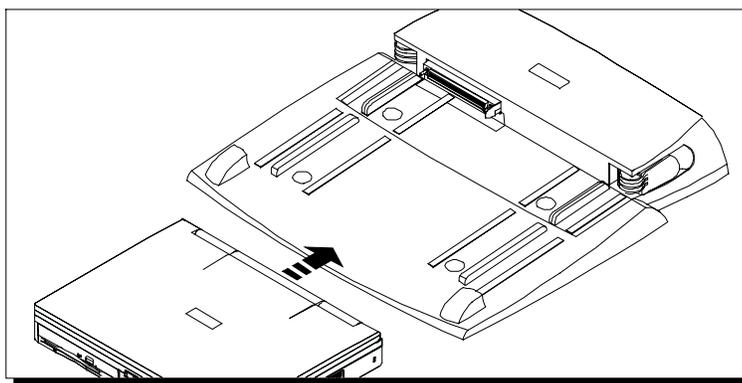

Figure 6-9: Connecting the Notebook to the I/O Port Replicator
3. Locate the two grooves on the bottom side of the Notebook. Place the Notebook on the Port Replicator's docking platform, aligning the grooves with the Replicator's docking rails (see **Figure 6-9**).